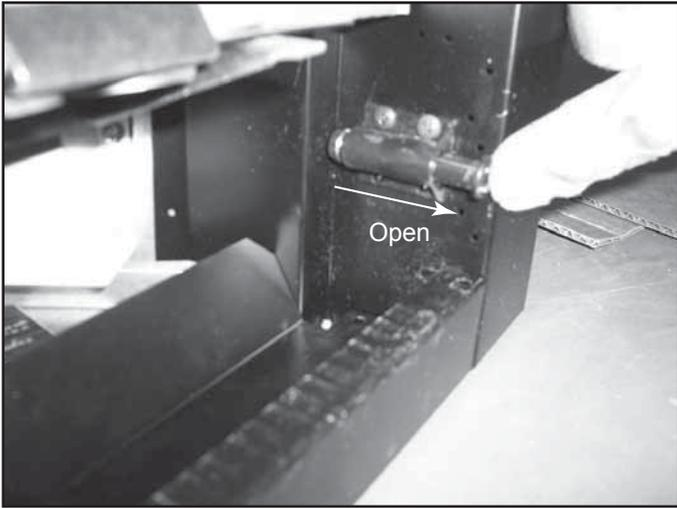

Figure 15.21 Magnetic Touch Latch Open
- Make sure the screen magnetic touch latches are in the open position. See Figure 15.21.